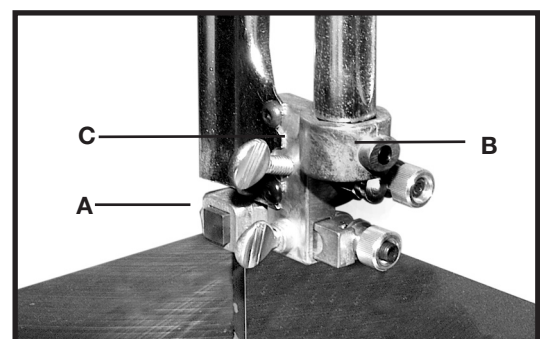

Fig. 27
2. Check the upper blade guide assembly. The blade guides (A) Fig. 27 should be parallel to the blade. To adjust, loosen the screw (B) and rotate the complete guide assembly (C). When the blade guides are parallel with the blade, tighten the screw (B).